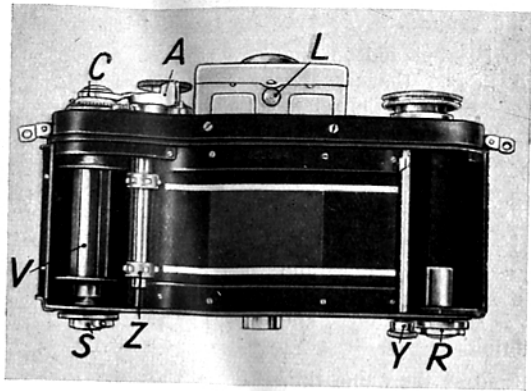
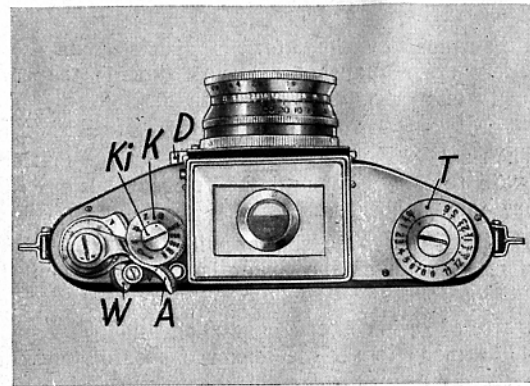
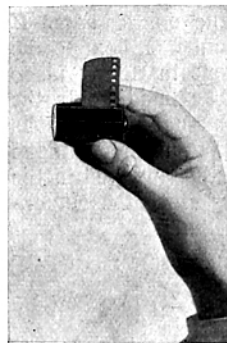
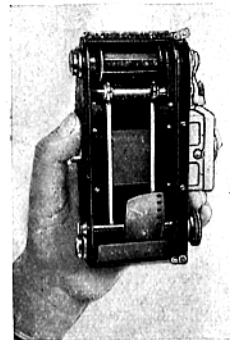

fig. 3
fig. 5
fig. 6
fig. 7
Holding the camera in the left hand as shown in fig. 2, the button **B** is pushed to the left (i.e. towards the bottom of the camera) to release the back. The latter is then taken off and placed on one side. The camera is now open, and the back will appear as in fig. 3.
The camera back is therefore detached and the finder hood allowed to spring open by pressing the small knob **L** (fig. 3). The camera will then look as in fig. 5 when viewed from the top.
Before attempting to load the camera, make sure that the small button **W** (shown in fig. 5) on the top of the camera is turned so that the letter "**V**" can be seen. Having made sure that this is so, the camera is opened by removing the back. The film cartridge is held in the right hand as shown in fig. 6: the circular hole in its base, in which its cross-peg is placed, is on the left. This position can easily be found by observing the manner in which the film projects from the cartridge.
The key **R** (fig. 3) is now raised and with its aid the circular peg which holds the cartridge in place is pulled outwards as far as it will come. The camera is now taken in the left hand, as seen in fig. 7, and the cartridge placed
To examine the image on the ground-glass focussing screen, the finder hood must be released by pressing the button *L* (fig. 3). In this position the ground glass may be examined from above.
1. The small button *W* (fig. 5) which changes the direction of the film from forwards to backwards is moved over so that the letter "*R*" (reverse) is seen.